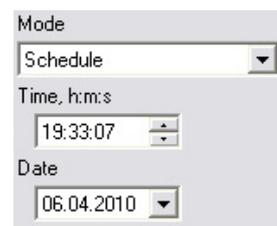

Fig. 4.18 Parameters of the operating mode under schedule
- *The operating mode under the schedule* – is similar to a manual mode (Fig. 4.18) with that only a difference, that after pressing button “Start”, the program passes in a mode of tracing of system time and date, makes line reading as soon as system time reaches mounted.